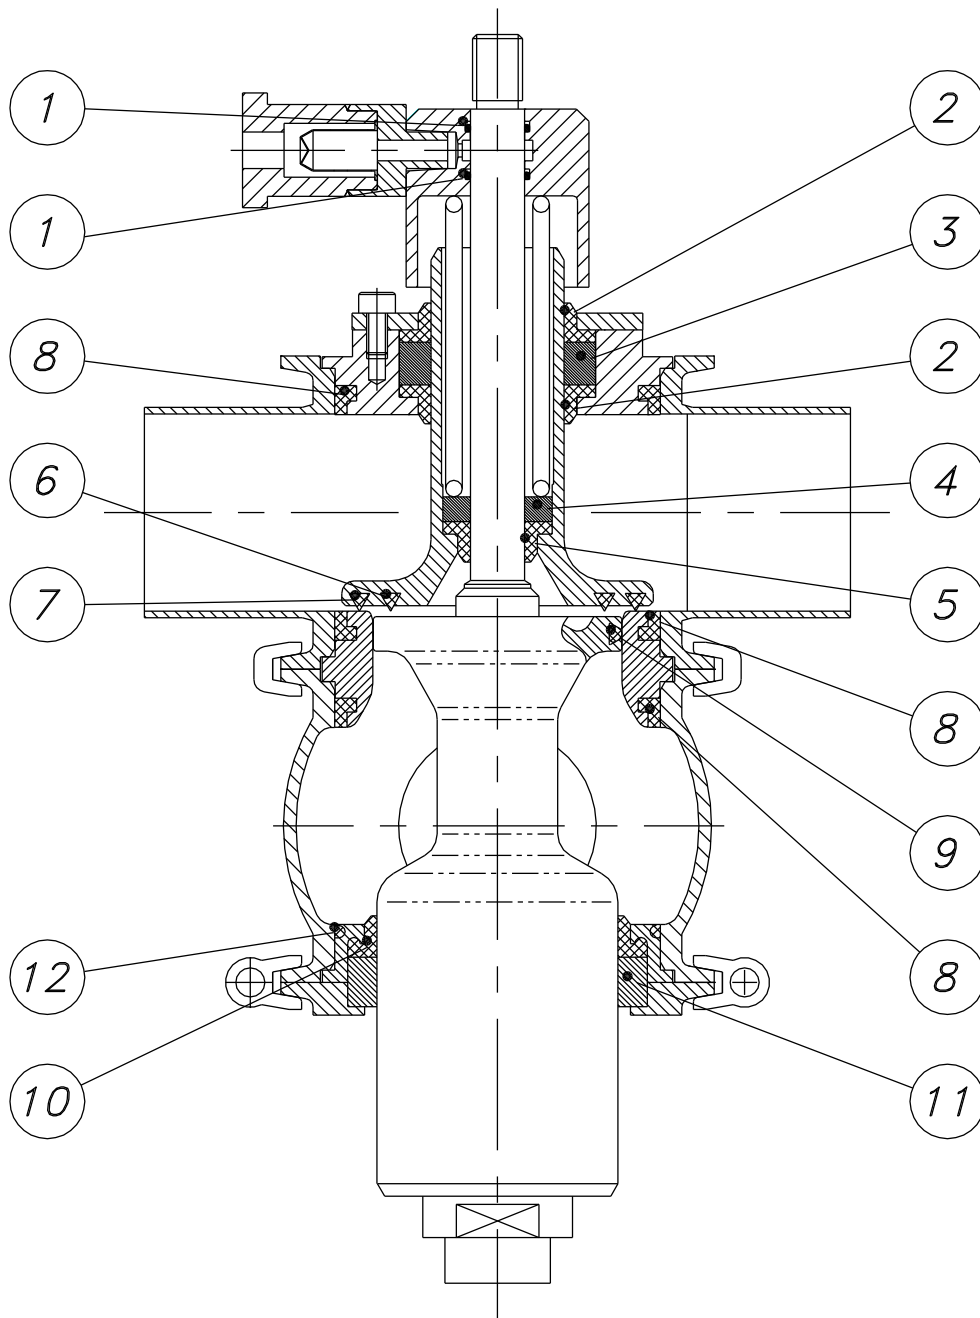

Fig MBCSP1
6.0 RUNNING SPARES - SEALS AND BEARINGS (Fig MBCSP1)